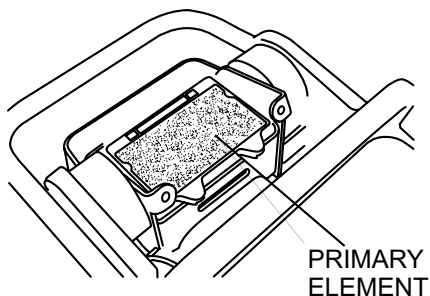

Figure 17. Air Cleaner Primary Element
- Remove the air cleaner cover. Loosen and remove the two screws that hold the cover to the air cleaner assembly. If the primary element (Figure 17) is dirty, wash it with gasoline or kerosene. Then dip it in engine oil (SAE10W-30) and wring the element so that 25 to 30 cc of engine oil remains on the element.